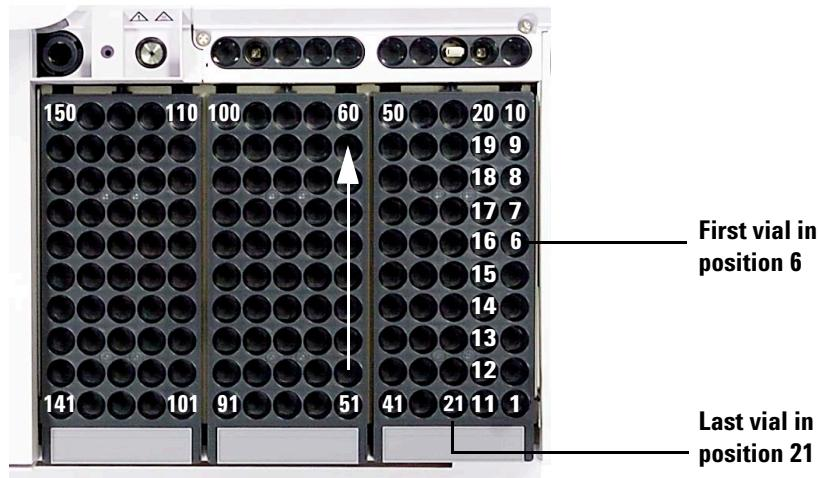

Figure 2 Loading tray positions
- 2 Place up to 150 samples in the three vial racks, according to the programmed sequence. Figure 2 shows tray loading for a sequence that uses tray positions 6 through 21.